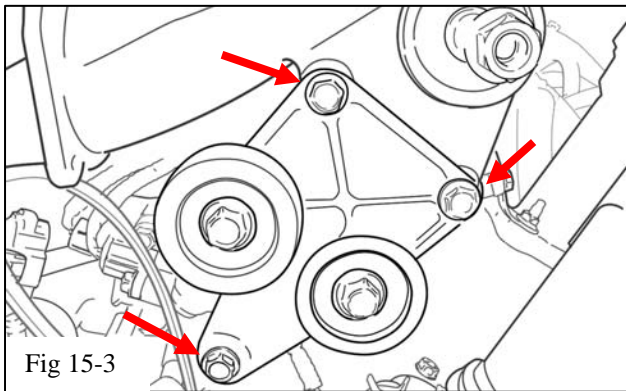

Fig 15-3
- (d) Using the 3 M8 bolts (D2), install the upper idler bracket assembly (D1) to supercharger housing (2 places) and the engine cylinder head boss (1 place) (Fig 15-3). Do not tighten.